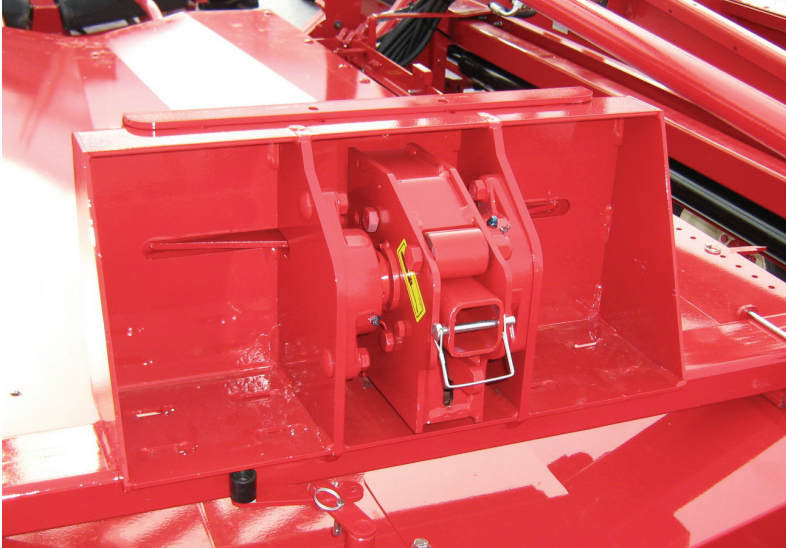

Figure 9.1 Pusher plate ring pin
- 4- Remove the ring pin from the pusher plate (Figure 9.1).